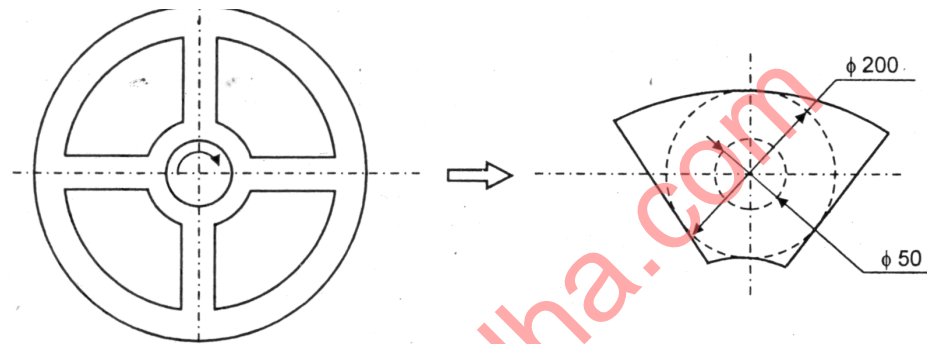

Fig 1.
- (b) A hydrostatic thrust bearing consists of four pads as shown in Fig. 1. Each pad can be approximated as a circular area of outer and inner diameters of 200 mm and 50 mm respectively as shown in Fig.1. The total thrust load on bearing is 300 kN and film thickness is 0.1 mm. The absolute viscosity of the lubricating oil is 47.76×10^{-9} N-s/mm². Calculate supply pressure and flow rate. **07**